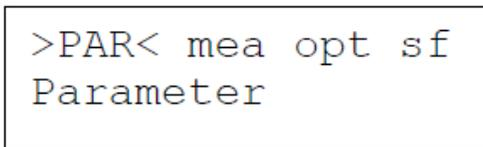

Figure 6 Meter’s Main Menu display with PAR selected.
7. Turn meter on (**FUM** ch 10.1 p61). See figure 5. The meter will briefly display a message saying “CLAMPON DETECTED ON A:” (or B if channel B is used for transducer input), followed by a brief meter ID message. Then the main menu appears in the meter’s digital display with one of 4 options selected: **par** (parameters), **mea** (measuring), **opt** (output options), or **sf** (special functions). See figure 6.